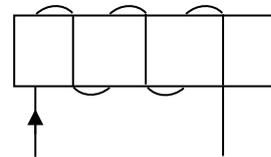

Figure 1
10. For the circuit of Figure 1, determine which end of the electromagnet will be the north pole.
11. For the circuit of Figure 2, draw the windings and mark the current direction required to reverse the coils magnetic polarity in Fig 1.